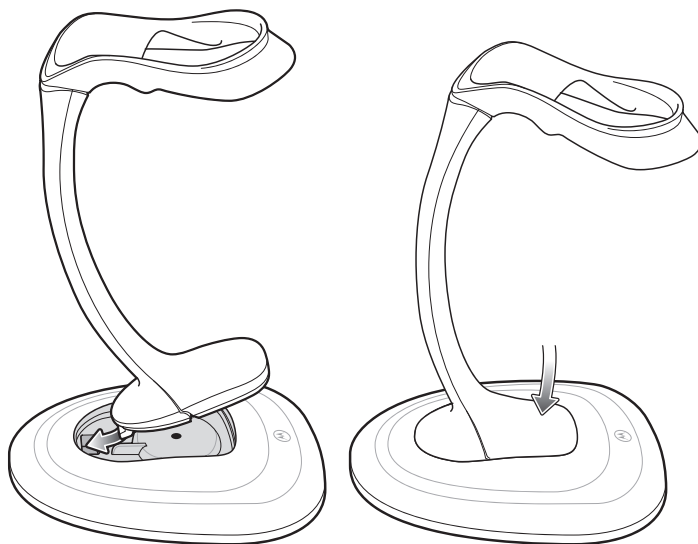

Figure 1-4 *Inserting Stand Pedestal in Base*
1. Insert the stand pedestal into the base as shown in Figure 1-4.